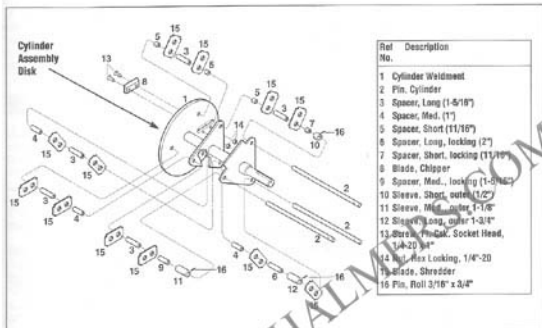

Figure 5-8: Cylinder assembly components.
- To reassemble the cylinder assembly, see Figure 5-8 for the position of the components.